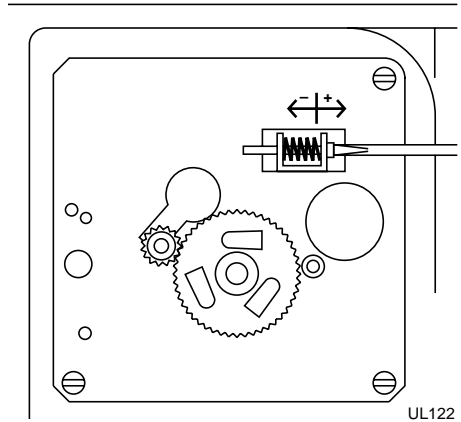

Figure 40
2. Locate the adjusting screw on the ice maker assembly control box. The adjusting screw is just below the minus (-) and plus (+) signs on the control box (see Figure 40).